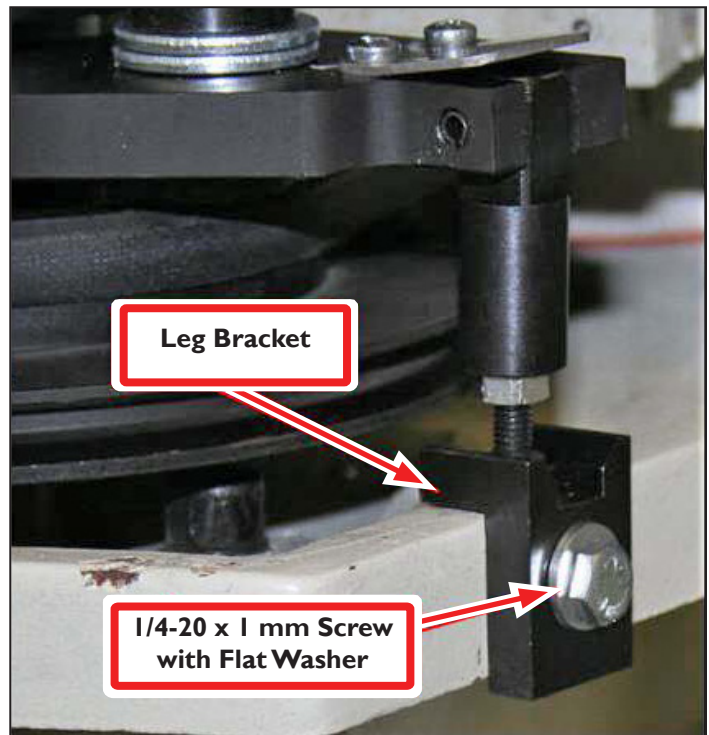

Figure 11
7. Mount the Leg Bracket as follows (see **Figure 11**):